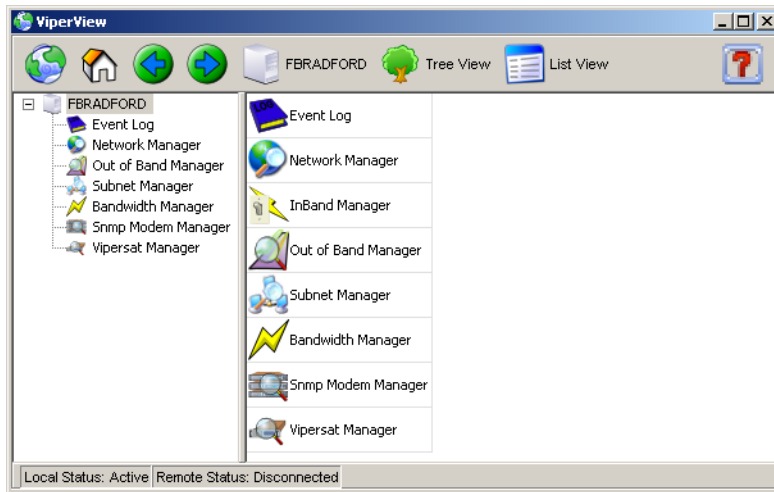

Figure 2-47 ViperView window, VMS Client
3. The **ViperView** window will appear, as shown in figure 2-47.